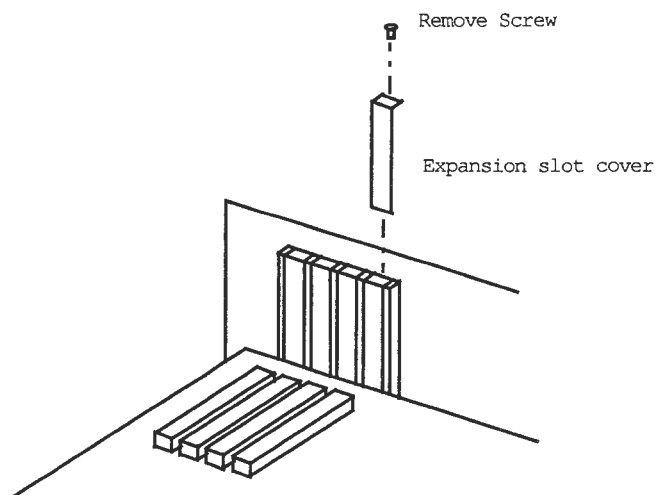

Figure 10: Removing the Expansion Slot Cover (PCI Bus)
1. Turn off the power to your PC and remove the chassis cover (refer to your PC's manual for a description of how to remove the cover). Then remove the expansion slot cover as shown in Figure 10.